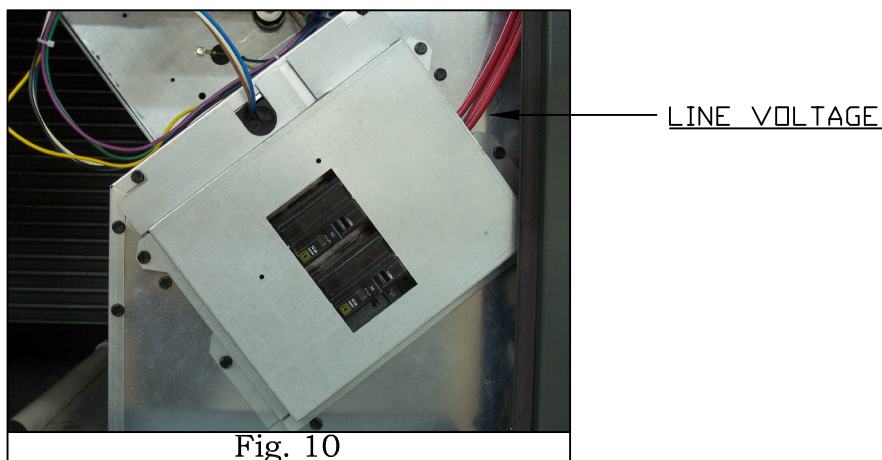

Fig. 10
18.) Install the cover with the two screws removed in step #6, routing the line voltage wires through the rubber grommet. (See fig. 10)